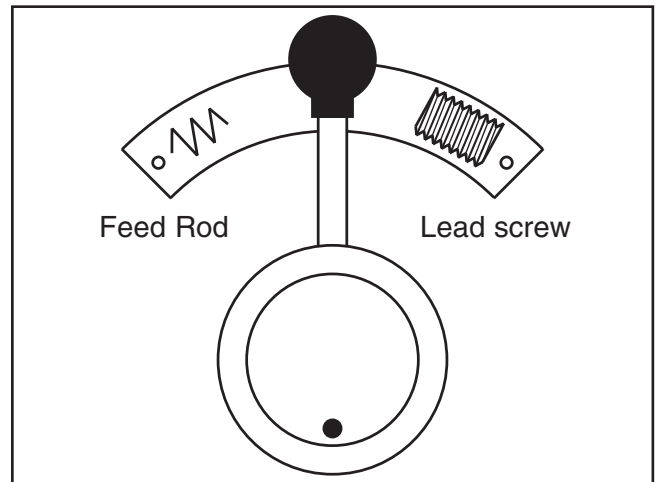

Figure 48. Feed Rod/Lead Screw Selector.
3. Set the Feed Rod/Lead Screw selector shown in **Figure 48** to Feed Rod.